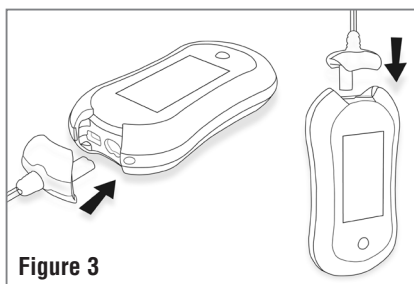

Figure 3
- Insert the lead wire plug into the opening at the top of the stimulator. See Figure 3.